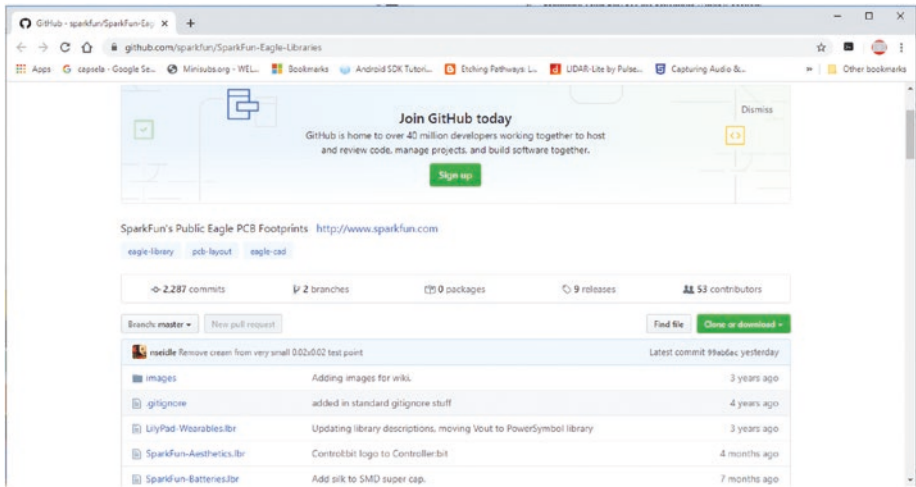

Figure 5-6. Go to the URL
4. Go to this link: <https://github.com/sparkfun/SparkFun-Eagle-Libraries>. See Figure 5-6.